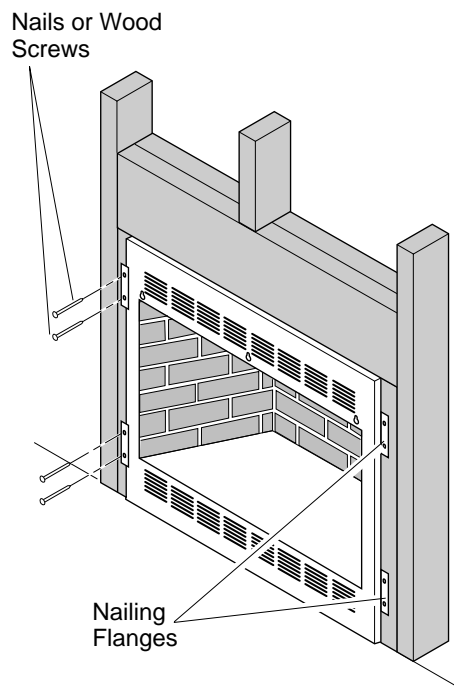

Figure 15 - Attaching Firebox to Wall Studs
6. Attach firebox to wall studs using nails or wood screws through holes in nailing flange (see Figure 15).